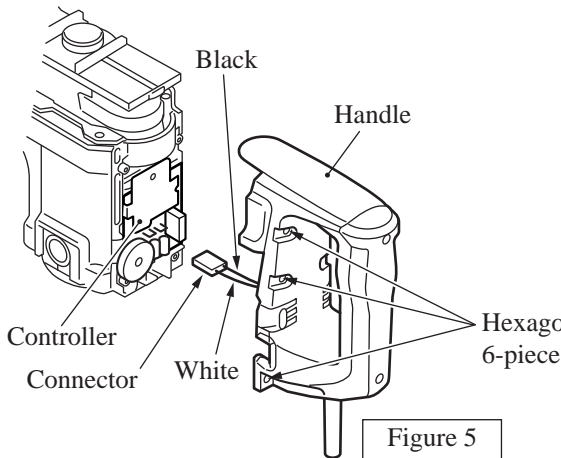

Figure 5
- c. Remove hex.socket head bolts and then remove handle.(See the figure 5.)
- d. Remove the connector.(See the figure 5.)
Note 2) For Connector shown on the figure 5, be sure to pull out Connector itself while holding Controller.